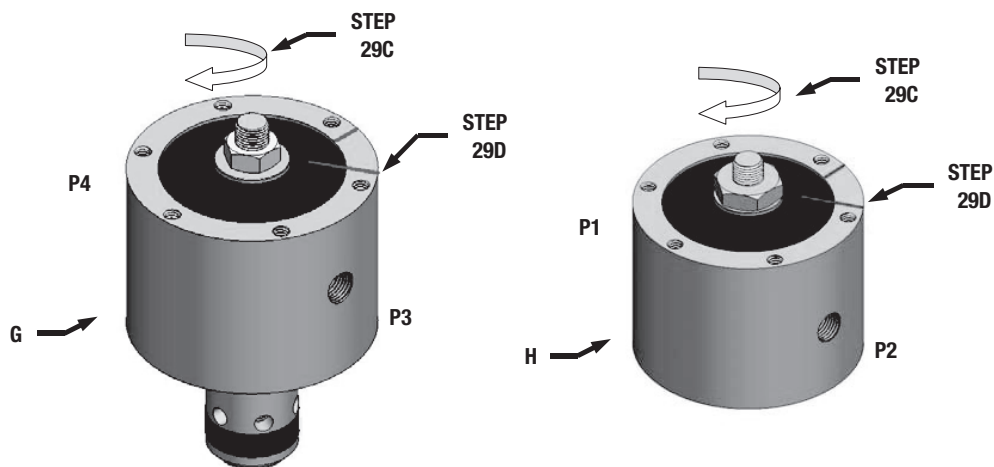

Figure 13
- Mark the Bodies (G and H) with Extensions from lines already on the Diaphragms (R) as shown in Figure 13.